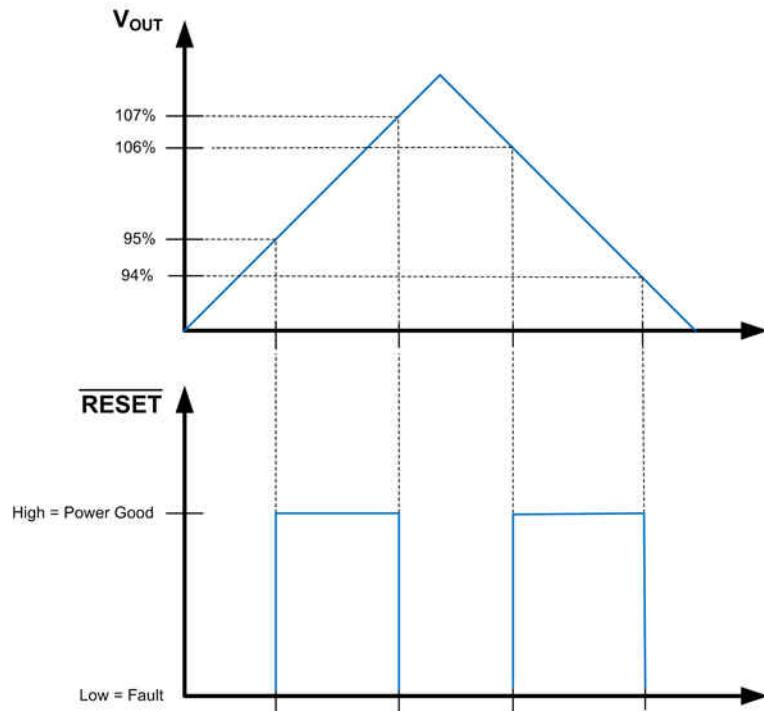
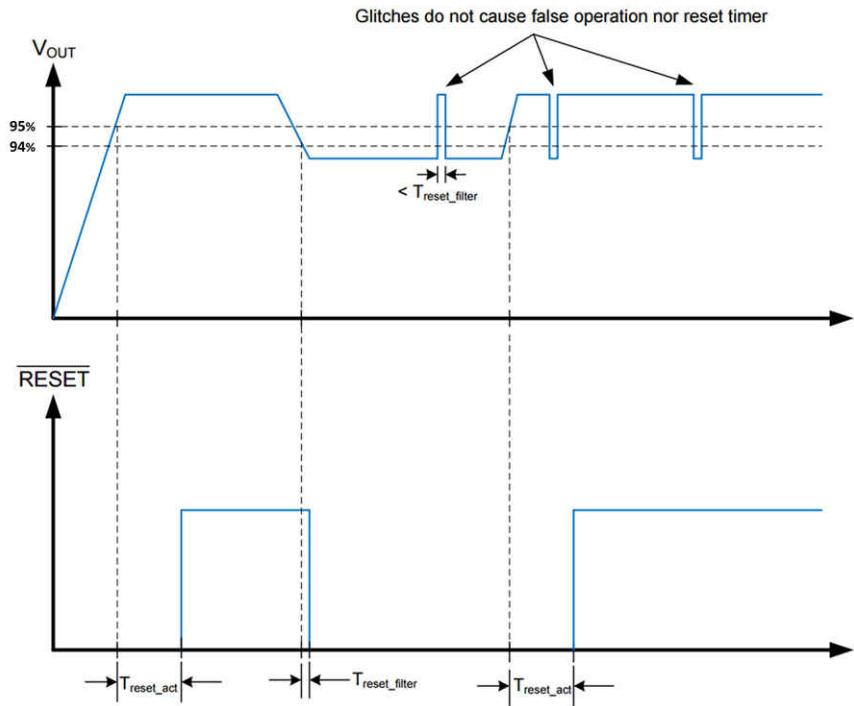
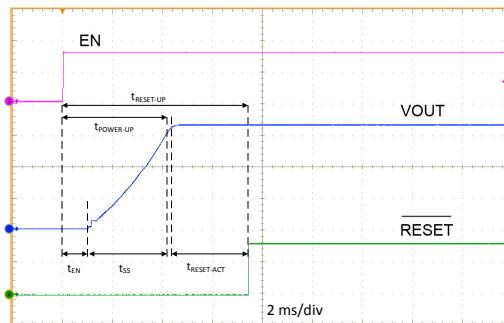

图 8-2. Static RESET Operation
图 8-3. RESET Timing Behavior
图 8-4. Typical Start-Up Waveform
- A delay has been added between the point at which the output voltage is within specified limits and the flag asserts Power Good. A glitch filter prevents false flag operation for short excursions in the output voltage, such as during line and load transients. See 图 8-3 and 图 8-4 for more detail.
Because the $\overline{\text{RESET}}$ comparator and the regulation loop share the same reference, the thresholds track with the output voltage. When EN is pulled low, the $\overline{\text{RESET}}$ flag output is forced low. When the device is disabled, $\overline{\text{RESET}}$ remains valid as long as the input voltage is ≥ 1.5 V. $\overline{\text{RESET}}$ operation can best be understood by reference to 图 8-2 and 图 8-3. Output voltage excursions lasting less than $T_{\text{RESET-filter}}$ do not trip $\overline{\text{RESET}}$. Once the output voltage is within the prescribed limits, a delay of $T_{\text{RESET-act}}$ is imposed before $\overline{\text{RESET}}$ goes high. This enables tighter tolerance than is possible with an external supervisor device while also expanding the system allowance for transient response without the need for extremely accurate internal circuitry.
A typical start-up waveform is shown in 图 8-4 along with timing definitions. This waveform indicates the sequence and timing between the enable input, output voltage, and $\overline{\text{RESET}}$. From the figure, the user can define several different start-up times depending on what is relevant to the application. 表 8-1 lists the timing definitions and typical values.